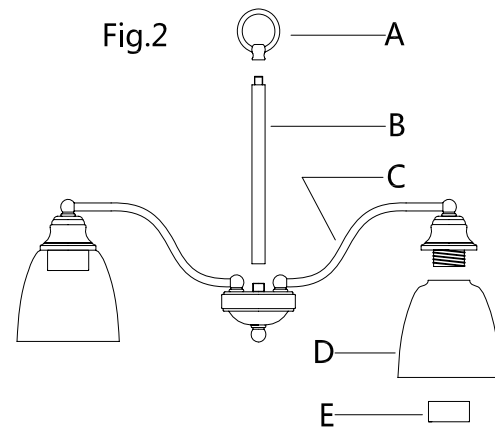

Fig. 2.1
2. Attach the loop (A) and tube(B) to the center coupling of fixture body (C), by turning it clockwise until tight.
3. Raise the glass shade(D) to the lamp holder, then lock it securely with check ring(E).
** Please pause and refer to Fig. 2.1.